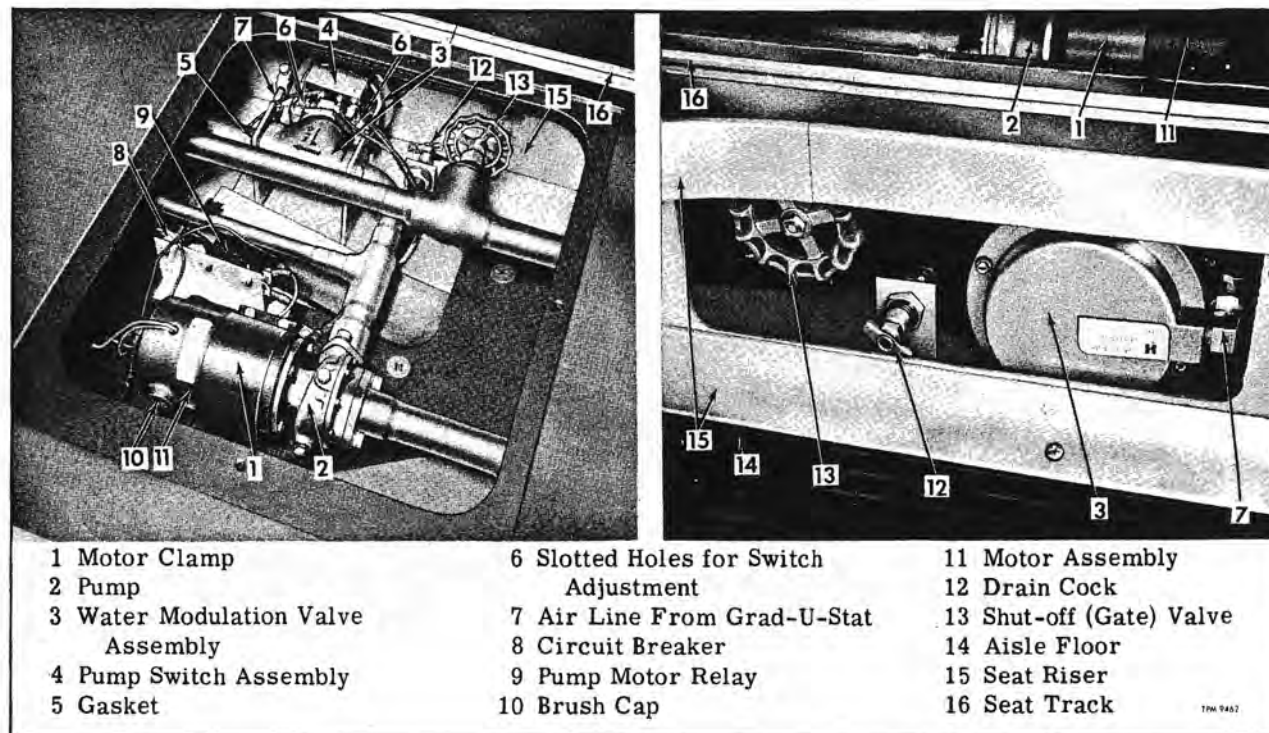
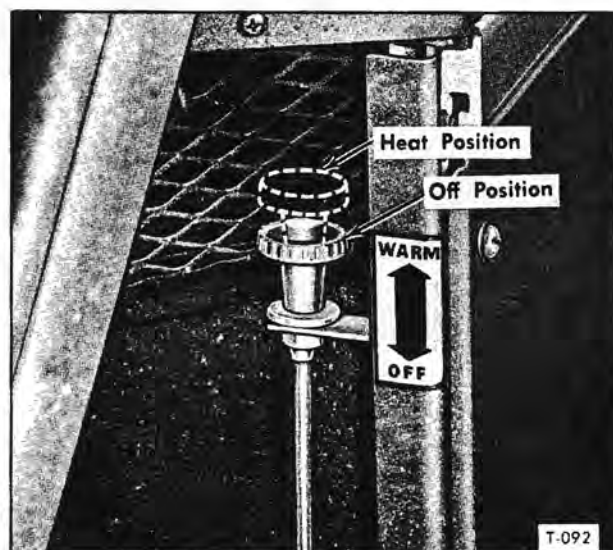
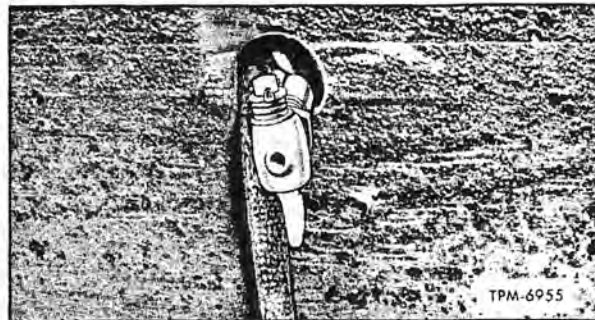

Figure 7—Modulation Valve and Water Pump Installed—Suburban Model
Figure 8—Driver's Heater and Defroster Valve Control
Figure 12—Heater Line Drain Cock At Rear Of Left Wheelhouse (Transit Model)
Flow of water through the dash heater core is controlled by the manually adjusted control valve (fig. 8). Water modulation valve is air-operated, the air pressure delivered to it being graduated by the Grad-U-Stat, which is sensitive to inside coach temperature. After circulating through heater cores, water flows through the return line to the suction side of the engine water pump. Shut-off (gate) valve (figs. 7 and 9), located in return line provides manual means of closing or opening line circuit, to permit working on engine system without draining heating system (or vice versa). Valve is located underneath floor ahead of engine bulkhead at left side of transit coach or behind floor aisle riser on suburban coach.
draining engine cooling system, close shut-off (gate) valve (figs. 7 and 9) located underneath floor ahead of engine bulkhead at left side of transit coach or behind aisle riser on suburban coach.
6. On a transit coach, open drain cock (fig. 12) underneath floor just to rear of left rear wheelhouse, to drain supply line connecting modulation valve and under-floor heater core. This same drain cock on suburban coaches is located behind floor aisle riser (fig. 7).
1. Make certain all drain cocks mentioned previously under "Draining," are closed, that heater line shut-off valve (figs. 7 and 9) underfloor and defroster heater valve (fig. 8) are open.